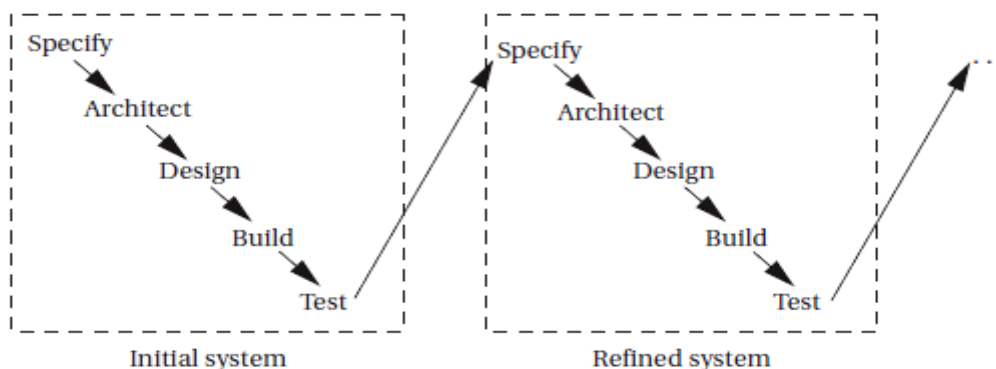

FIGURE 7.3
- ✓ Figure 7.3 shows a **successive refinement** design methodology. In this approach, the system is built several times. A first system is used as a rough prototype, and successive models of the system are further refined.